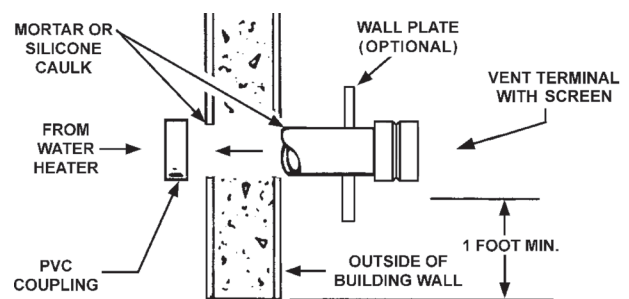
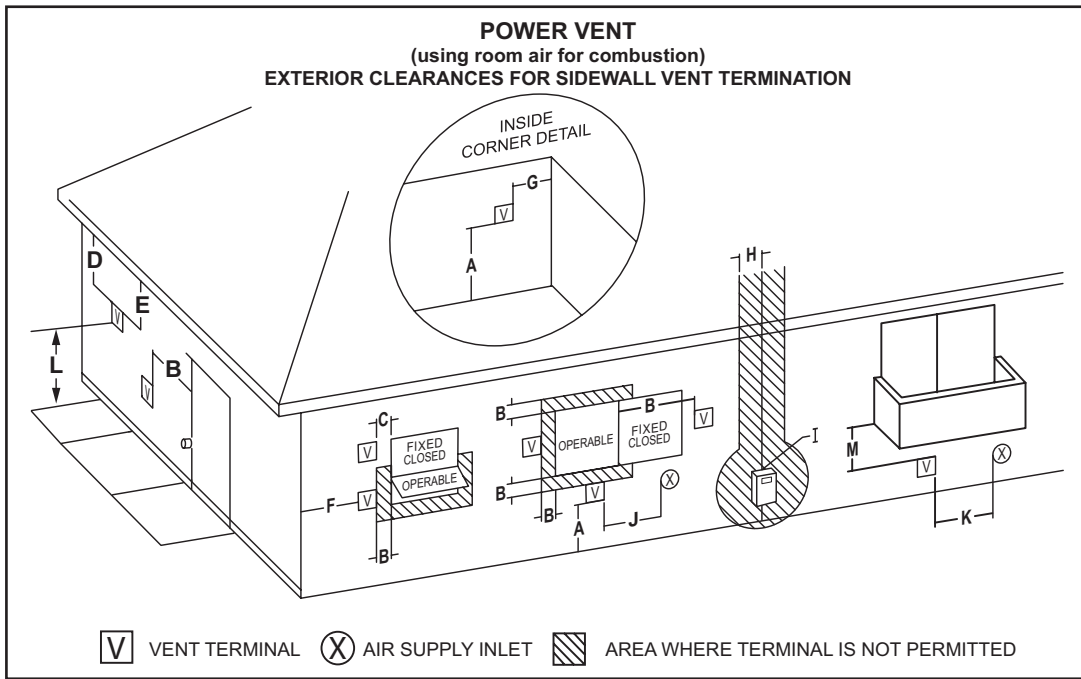

Figure 13: VENT TERMINATION
Figure 16
2. Through-the-Wall Termination - horizontal vent termination directly through an outside wall, see Figure 13 on Page 27.
Direct venting into dead spaces such as alleys, atriums, and inside corners can cause recirculation of flue gases. Recirculation of flue gases will cause sooting, and icing of the combustion air intake during severe cold weather. To prevent the recirculation of flue gases, maintain as much distance as possible between the combustion air intake and the exhaust vent terminal refer to Figure 16 and Figure 17 on Page 29 & Page 30 respectively.
The first step is to determine where the vent pipe will terminate. See Figure 13, Figure 14A, and Figure 15. The vent may terminate through a sidewall as shown in Figure 13 and Figure 15 or through the roof as shown in Figure 16 and Figure 17.
The vent system must terminate so that proper clearances are maintained as cited in local codes or the current edition of the National Fuel Gas Code, (ANSI Z223.1, 12.9.1 through 12.9.4) or the Natural Gas and Propane Installation Code (CAN/CSA-B149.1). See Figure 16 and Figure 17.
Instructions on proper installation through a sidewall are provided in Figures 13, Figure 14A, and Figure 15.
Cut a length of pipe about 3.5 inches (8.9 cm) longer than the wall thickness at the opening. Glue the vent terminal to this section of pipe. Slide the wall plate over the pipe to stop against the vent terminal. Place a bead of caulking (not supplied) around the gap between the pipe and cover plate. Apply enough to fill some of the gap between the pipe and wall. Place some of the caulking on the back of the plate to hold it against the wall after installation. If the vent pipe is installed up to the wall, with a coupling on the end against the wall opening, the pipe with the vent terminal can be prepared for gluing before inserting through the wall. Slide the pipe through the wall and insert into the coupling on the other side of the wall, making sure that the vent terminal ends up pointed in the correct position, see Figure 13.